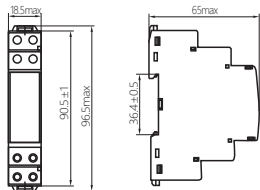

Figure 1 Outline and installation dimensions
3.1 Outline and installation dimensions: see Figure 1, unit: mm.